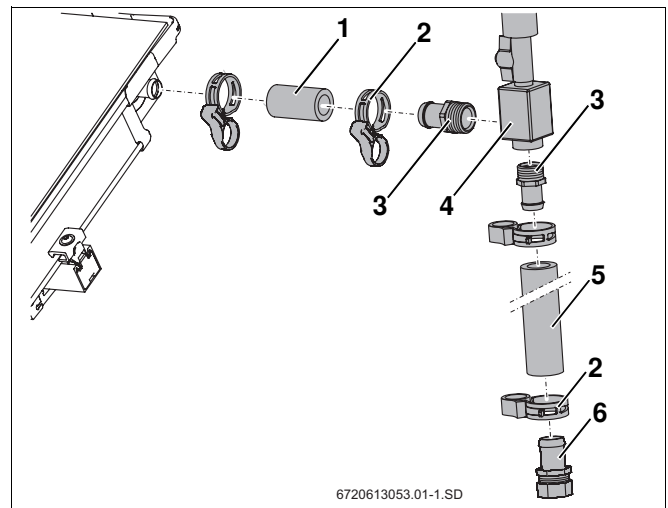

Fig. 60 Connecting the air vent valve on roof
- Push short solar hose (55 mm, Fig. 60, **Item 1**) onto the flow connection on the collector array and fix in place using hose clip.
- Firmly screw R $\frac{3}{4}$ hose nozzles with O-rings (Fig. 60, **Item 3**) into the air pot (Fig. 60, **Item 4**).
- Insert hose nozzles (Fig. 60, **Item 3**) into the solar hoses (Fig. 60, **Item 1** and **5**) as far as they will go, and fix in place using hose clips (Fig. 60, **Item 2**).
- Insert hose nozzle with compression fitting (Fig. 60, **Item 6**) into the solar hose as far as it will go, and fix in place with hose clip.
- Connect header pipe to the hose nozzle with compression fitting (15 mm) (Fig. 60, **Item 6**).